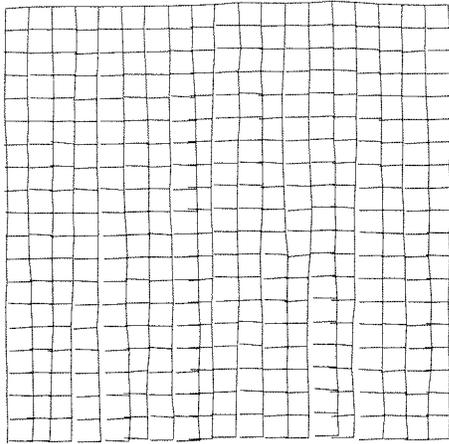
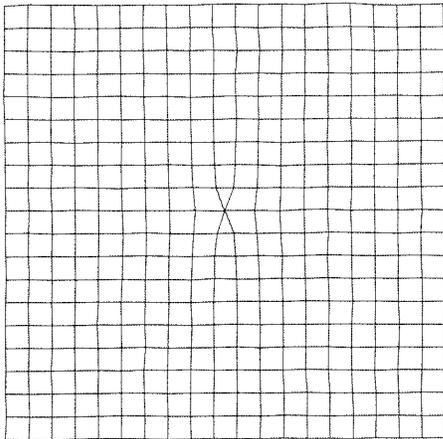
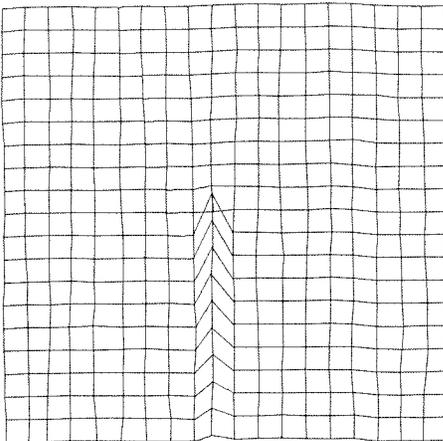

Figure 1. 20 by 20 grid, unadjusted
Figure 4. Grid with an east-west blunder adjusted by CMAP
Figure 5. Grid with with a north-south blunder adjusted by COMPASS
The test cases were run through my CMAP program as an example of simultaneous adjustment and COMPASS as an example of sequential adjustment. Figure 1 shows an unadjusted 20 by 20 grid. CMAP was used to make Figure 1 because COMPASS does not show an unadjusted plot with the closure errors hanging open. Instead, COMPASS always connects the last shot of a loop to the closing station giving the appearance of an adjusted survey. The arrangement of the data into north-south lines with individual shots to the west is due to the order in which the data were generated.
One of the claimed advantages of sequential adjustment is the handling of blunders. I reversed a shot in the middle of the survey shown in Figure 1. The sequential adjustment performed exactly as advertised and gave the same result as if the blunder were not there. The simultaneous adjustment gave the result shown in Figure 4. The blundered shot got adjusted down to approximately zero length. However, much of the rest of the grid is not distorted by the blunder. The interesting thing is that the errors from the reversed shot don't propagate very far into the adjusted survey network. The effect damps out one or two loops away from the blunder. In a normal survey, the blunder would be smaller in relation to the loop and its effect would be less. Table 4 shows the error statistics for the survey with the blunder and with the 6 immediately adjacent shots left out of the statistics. If we ignore the blunder and the shots next to it, the simultaneous adjustment is better than the sequential adjustment.
The blunder whose effect is shown in Figure 4 and Table 4 was a reversed shot in the east-west direction. I reversed a shot in the north-south direction. The simultaneous adjustment gave a result like Figure 4 rotated 90 degrees. The sequential adjustment gave a much different result. Figure 5 shows that a single blunder can propagate to other loops in a sequential adjustment. I won't bother tabulating the error statistics for Figure 5.
The blunder propagation shown in Figure 5 is caused by the same thing that causes the overlapping loops. COMPASS does not examine all possible loops. The "best" loop is chosen from those that are examined. The first survey to a station is involved in all the examined loops that lead to the station. How this produces Figure 5 would require a complicated explanation. The basic problem can be shown by a simple example with two stations and three 'survey routes' between them.
Another flaw in Bob's analysis of COMPASS's performance occurs when he looks at blunders. One of the arguments against LSSE is that it spreads blunder errors to other loops in the cave. In his article, Bob attempts to prove that this effect is minimal. In Figure 4 of his article (Grid with an east-west blunder adjusted by CMAP), he shows a single blunder in a mesh of 400 loops. In the text, he comments that the errors do not propagate "very far" from the blunder. He says that the blunder error only propagates to six loops adjacent to the blunder. Six loops seem like a lot to me; but, if you look carefully, you can see that there are really 16 loops around the blunder that have been distorted. Below is a blow up of area around the blunder. I have placed arrows in the drawing to show where the distortions in each loop occur. As you can see, there are 16 loops that are visibly distorted.
Let me explain this in detail. In the article he says: "Figure 5 shows that a single blunder can propagate to other loops in a sequential adjustment." There are several problems with this statement:
1. **BOB'S DATA ACTUALLY HAS TWO BLUNDERS.** Bob sent me copies of the data he used to create Figure 5. In spite of his description, I discovered that the data has **two blunders** in it, not just one. They are shot reversals located at shot 1010-1110 and 1010-1011. In addition, the data Bob uses in Figure 4 to test his program (CMAP) only has one blunder in it. (As you will see below, when I test CMAP with the "two-blunder-data," the map is considerable more distorted.)